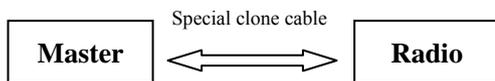

Figure 4.2
b. Connect the radio (master radio) in wired clone mode to another radio which needs to be set with the special clone cable. See figure 4.2.